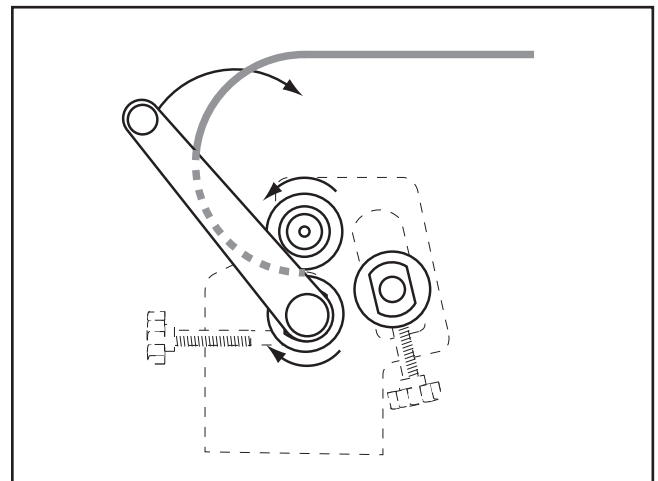

Figure 25. Re-inserting the workpiece.
5. Rotate the workpiece 180°, insert the curved end into the slip roll, then process the workpiece through the machine, as shown in **Figures 25 and 26**.